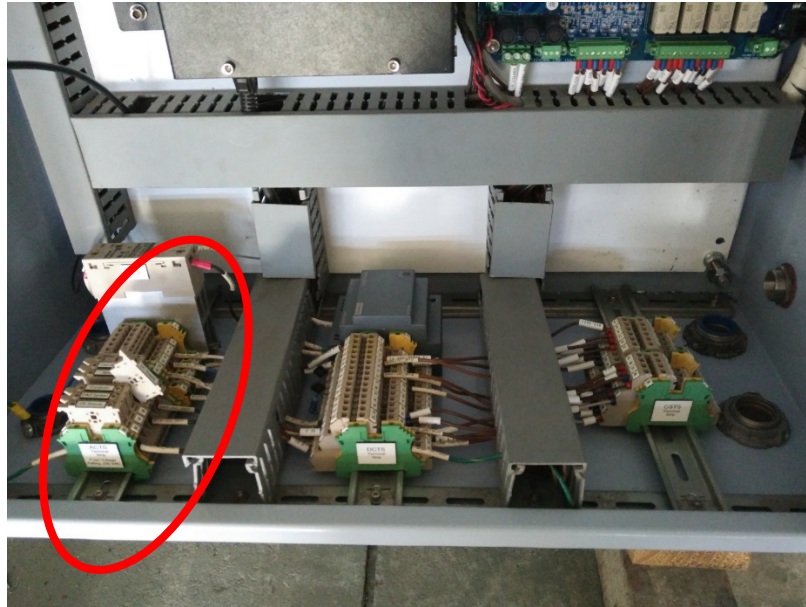
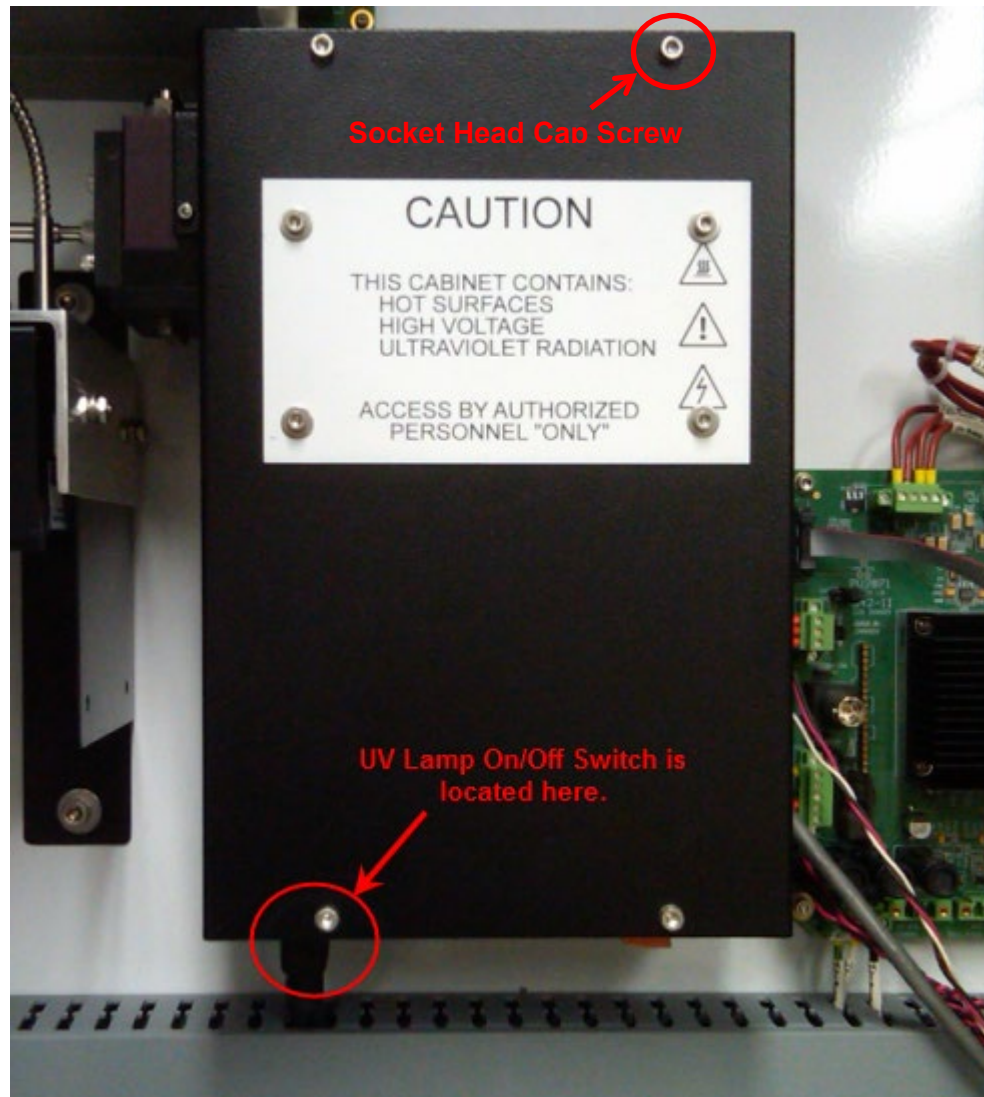

Figure 72: Location of Cell Heater Fuse on ACTS
Figure 73: UV Lamp Enclosure
4. Turn the oven heaters off by locating the Heater AC Power fuse terminal on terminal block ACTS:25. Lift the fuse terminal tab opening the terminal block and thus disconnecting the Heater AC Power fuse, as shown in Figure 72.
4. Lift the fuse terminal tab opening the terminal block and disconnect the UV Lamp Power Supply fuse, located at ACTS:28, next to the cell heater fuse tab indicated in Figure 72. Alternatively, place the UV Lamp power switch to the Off position. The location of the lamp power switch is indicated in Figure 73.